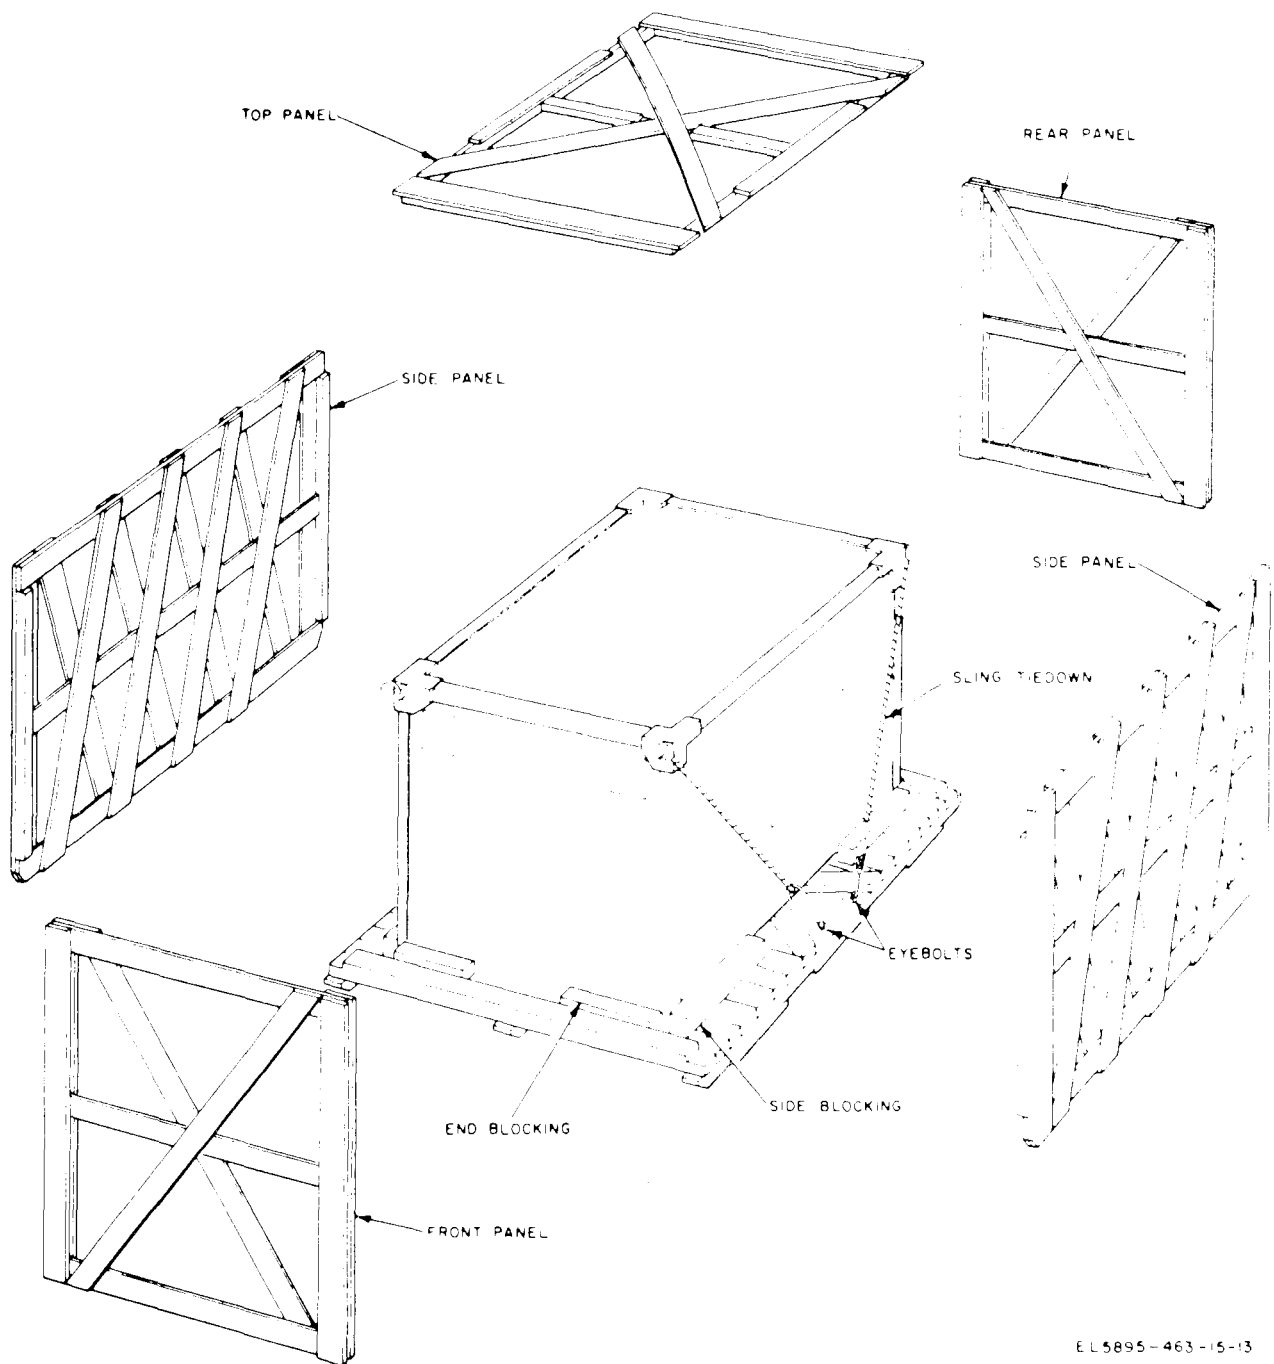

Figure 2-1. Typical packaging diagram.
a. Packaging Data. The AN/MS-31A (fig. 2-1) is packed in a reusable wooden crate. The shelter, which houses the equipment, is anchored to eyebolts in the skid base of the crate. The skid base has entries for handling with a forklift. The dimensions of the crate are 155 by 93 by 94 inches. The volume is 874 cubic feet, and the weight of the crated AN/MS-31A is approximately 3,600 pounds.
(1) Unfasten the lag bolts with wrenches and remove the top, front, rear, and side panels from the crate base (fig. 2-1).
(2) Detach the *tiedowns* from the eyebolts in the base of the crate turnbuckles.
(3) Remove the wooden blocking from the sides and ends of the shelter.